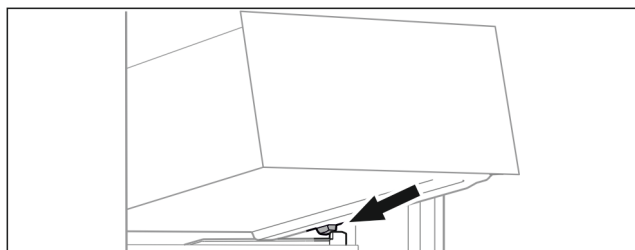

Fig. 63
- Place drawer at an angle behind the stoppers on the moulded rib. (see Fig. 63)